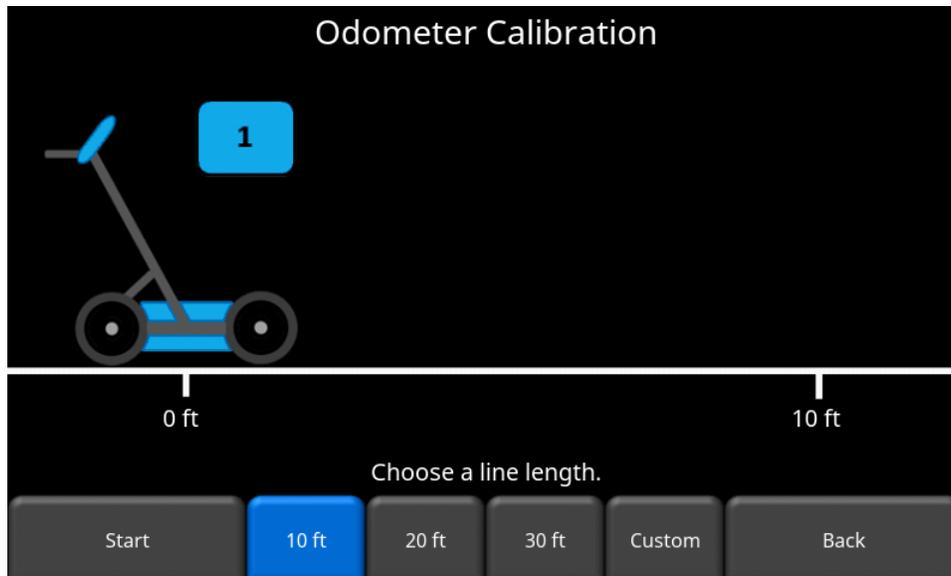

Figure 6-20: Odometer Calibration – select a distance and then press Start
- **Odometer Calibration** - This option actually calibrates the odometer (Figure 6-20). Choose a set distance from the screen, or select Custom. Then press **Start** and then move the system that exact distance, using a measuring tape or other known distance indicator. Press **Finish** when you have travelled that distance